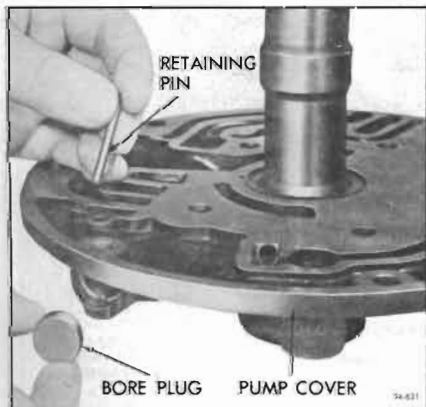

Figure 74-621
9. Remove the retaining pin and bore plug from the pressure regulator bore. See Figure 74-621.